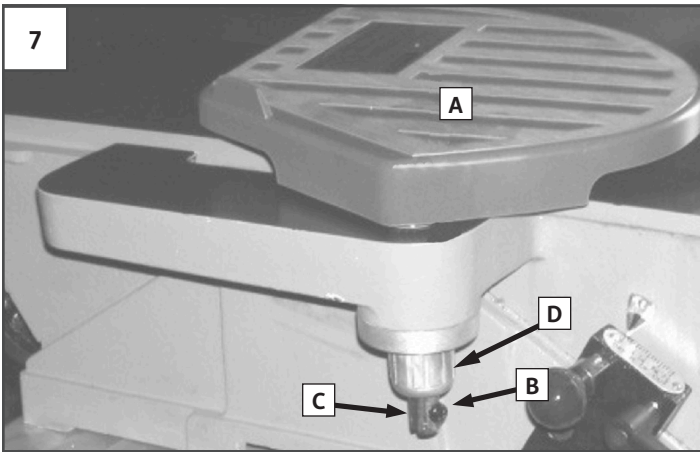

FIGURE 7: INSTALLING CUTTERHEAD GUARD
1. To install the **GUARD**, remove the **SET SCREW (B)** on the **GUARD SHAFT (C)**. See Figure 7.